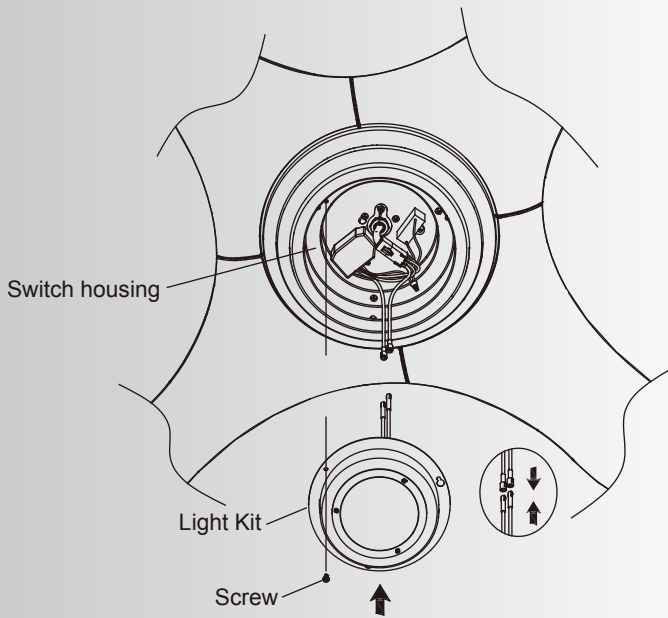

Fig. 20
Step 1. Remove one of the three screws preinstalled on the switch housing and loosen the other two (do not remove). Save it for reuse on step 3. (Fig. 20)
Step 2. Hold the light kit close to the switch housing and connect the WHITE wires from the switch housing and fan by pushing the connectors together. Follow the same procedure with the BLACK wires. (Fig. 20)
Step 3. Tuck the connections neatly into the light kit. Align the two slot holes on the light kit over the 2 screws previously loosened from the switch housing. Turn the light kit until it locks in place at the narrow end of the key holes. Securely tighten all three screws. (Fig. 20)